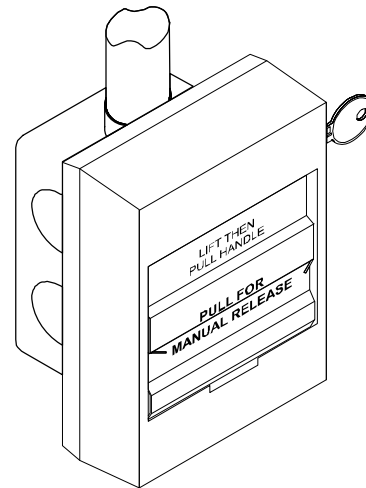

Figure 4: Mounted releasing station
4. Rotate the cover lock to secure the front cover to the backplate (Figure 4).